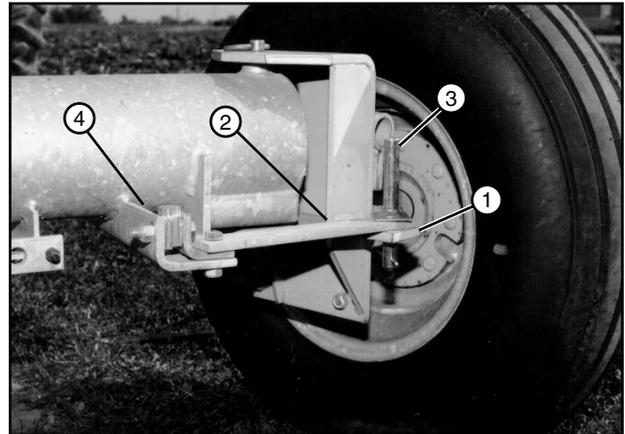

Figure 59-2 1. Steering Arm
13. Secure wheel in the swivel position with original hardware. See Figure 59-2.